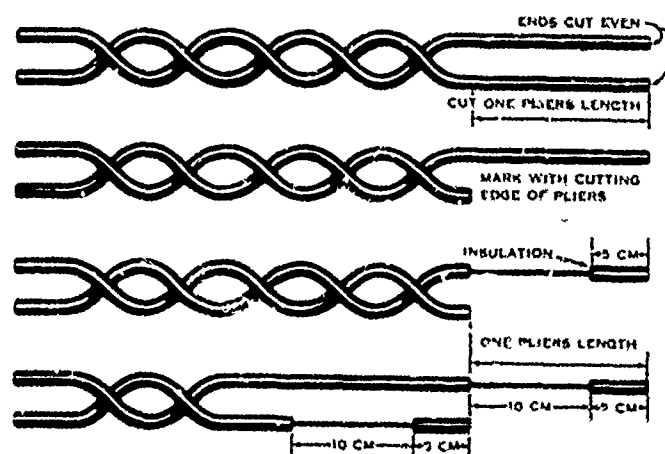
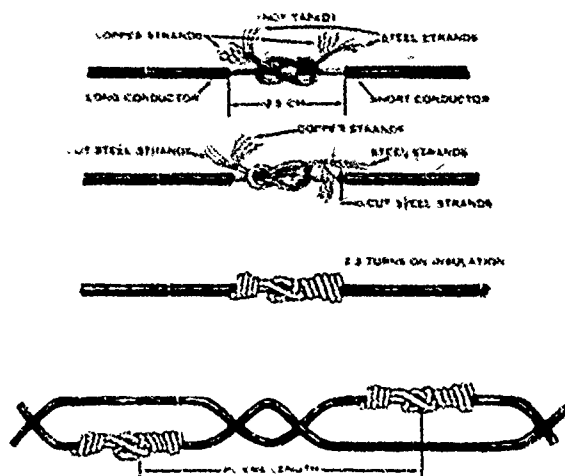

Figure 10-2. Preparation of Wire for Splicing.
Figure 10-4. Construction of the Splice.
b. When the knots have been tied remove the insulation left on the end of the conductors and separate the steel and copper strands as shown in figure 10-4. The steel strands are then cut off even with the insulation on the side of the knot from which they protrude. The copper strands are bent across the square knot to the side opposite that from which they protrude and are wrapped, as shown in figure 10-4, until they extend two or three turns on the insulation. This is done to seize the knot so that it will not slip and to bind the steel strands against the conductor preventing their penetration of the tape.
f. To repair a broken wire line, even though splicing equipment is not available, use a bayonet or some other sharp instrument to prepare the wire as nearly as possible as shown in figure 10-2. Then tie the first square knot, restore the twist and tie the second square knot. If time is available, seize the knots with the copper strands (figure 10-4). If tape of any kind is available, tape the splices, if tape is not available, get the splices up off the ground and separate them with a stick or twig to prevent electrical contact between the conductors. All temporary splices should be marked and communication personnel notified of their location as soon as possible.